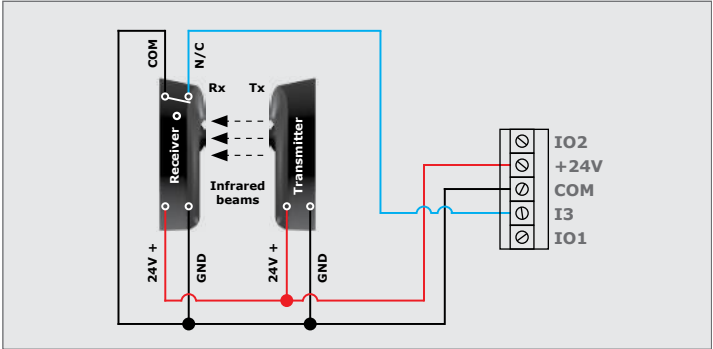

FIGURE 83. WIRING I5 SAFETY BEAMS TO THE SDO5 SMART+ (FOUR-WIRE)
- The trigger/TRG (green wire) in Figures 83, 84 and 85 can be either wired into IO1 or IO2, depending on the sites individual needs